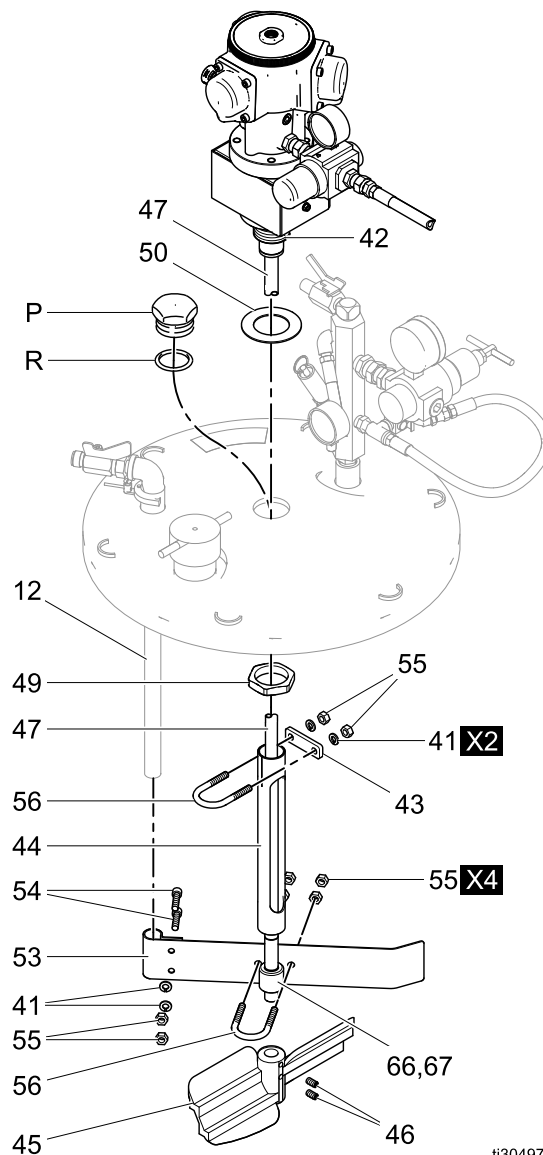

FIG. 1
- For 5 gallon tanks: *If a 5 gallon pain is to be placed inside the pressure tank, align the top of the paddle hub(45) with the upper mark (J) on the agitator shaft (47).*
13. Note the orientation of the baffle (53) in the FIG. 1. On the 5 gallon tank, clamp the lower U-bolt directly to the shaft support (44) (see figure above). Slide the baffle (53) over the fluid tube (12) and position the baffle about 1/2 in. (13 mm) above the highest point on the agitator paddle (45). Clamp in place with the lower U-bolt (56), and double nuts (55).